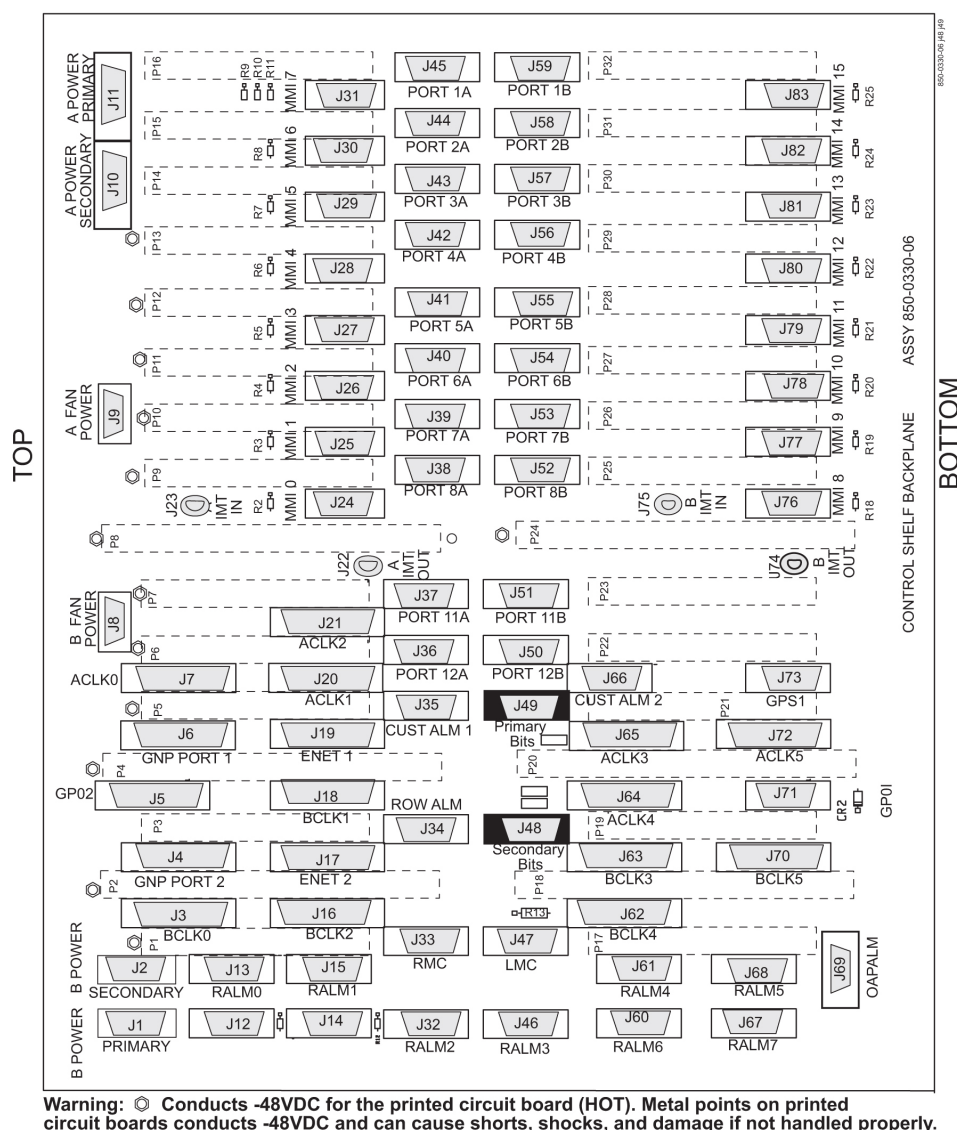

Figure 99: Control Shelf (P/N 850-0330-06 or -07) BITS Connectors
- existing composite clock cables (P/N 830-0226-xx) that are routed from the primary and secondary composite clock connections of the customer clock source to the *Primary BITS* and *Secondary BITS* clock connectors J49 and J48 on the control shelf. Figure 99: Control Shelf \(P/N 850-0330-06 or -07\) BITS Connectors shows the location of these connectors on the control shelf backplane.